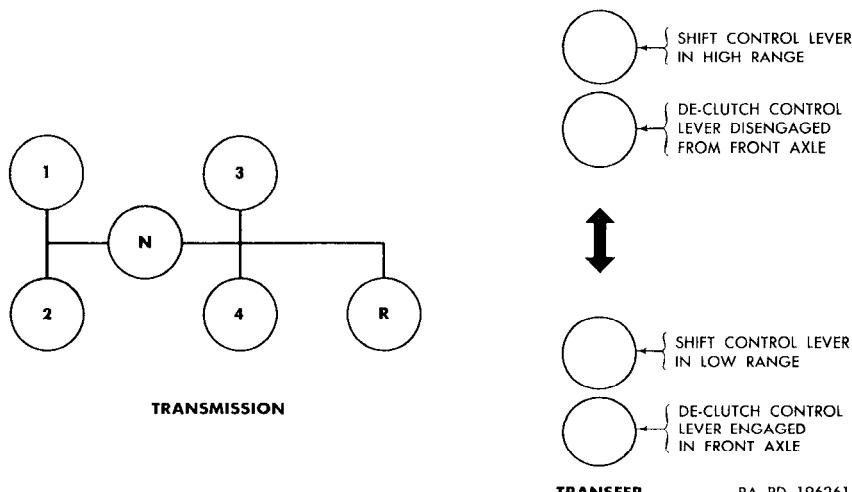

Figure 26. Transmission and transfer shift diagram.
- (1) Depress the clutch pedal and place the transmission gearshift lever in first speed position (1, fig. 26).
- (2) Place the transfer shift control lever in high range position and the transfer declutch lever in the disengaged position (fig. 26).
- (5) Momentarily, depress the clutch pedal and, at the same time, release the accelerator pedal, move the transmission gearshift lever to the next higher gear position (fig. 26).
- (6) Repeat (4) and (5) above until the vehicle is moving in fourth speed (direct drive).
- (2) *High range (front axle disengaged).* For operation on a smooth level highway, place the transfer in high range and be sure that the front axle is disengaged. With the vehicle stopped, depress the clutch pedal (DD, fig. 12) and place the transmission gearshift lever (W, fig. 12) in first gear (I, fig. 26). Move the transfer shift control lever (Q, fig. 12) and
the transfer declutch control lever (R, fig. 12) to the forward positions (fig. 26). If difficulty is encountered in shifting the shift control lever, release the clutch pedal slightly to allow the gears to mesh. With the transfer engaged, proceed with the driving operations (*c*(4) through (6) and *d* above).
- (3) *High range (front axle engaged).* To engage the front axle while operating in high range, stop the vehicle, depress the clutch pedal, move the shift control lever to the high range position, and move the declutch control lever to the engaged position (fig. 26). Proceed with driving operations (*c*(4) through (6) and *d* above).
- (4) *Low range (front axle engaged).* For transporting heavy loads over rough terrain or up steep grades, or for operating through mud, sand, snow, or ice, use low range. With the vehicle stopped, depress the clutch pedal (DD, fig. 12), place the transmission gearshift lever (W, fig. 12) in first gear (1, fig. 26), and move the transfer shift control lever (Q, fig. 12) to the low range position (fig. 26). As the shift control lever is placed in low range position, it engages the transfer declutch control lever (R, fig. 12), moving it to the engaged position. If difficulty is encountered in operating the shift control lever, release the clutch pedal slightly to permit the gears to mesh. With the transfer engaged, proceed with driving operations (*c*(4), (5), and (6) and *d* above).
h. Driving up Steep Grades. When driving up a steep grade, shift the transmission to the next lower gear (fig. 26) to prevent excessive engine laboring or stalling. If it becomes necessary to shift to a still lower gear with the vehicle in motion, depress the clutch pedal and move the gear shift lever to neutral position, quickly release the clutch pedal and, at the same time, accelerate the engine to governed speed, depress the clutch pedal, move the gearshift lever to the lower gear position (fig. 26) and release the clutch pedal, accelerating the engine, as necessary, to prevent loss of speed.
- (2) Prepare stalled vehicle for towing. Pull out the choke control (Y, fig. 12) and throttle control (H, fig. 12) about one-third of its travel. Turn the ignition switch (BB, fig. 12) on. Depress the clutch pedal (DD, fig. 12) and place the transmission gear shift lever (W, fig. 12) in fourth gear position (fig. 26). Place the transfer shift control lever (Q, fig. 12) in the high range position and the transfer declutch control lever (R, fig. 12) in the disengaged position fig. 26). Keep the clutch pedal depressed until the vehicles are moving at a speed sufficient to start the stalled engine ((4) below).
- (3) Operate the towing vehicle in first gear, starting slowly to avoid unnecessary strain.
- (4) As both vehicles attain a speed of approximately 5 mph, carefully release the clutch pedal of the towed vehicle.
b. Towing a Disabled Vehicle. The method of towing a disabled vehicle must be determined by the nature of the disability. The instructions in (1) through (6) below will serve as a guide in selecting the method of towing.
wheels on the ground. Place the transmission gear shift lever in neutral and the transfer control levers in the forward positions (fig. 26). This method of towing requires a driver in the towed vehicle to steer and to operate the brakes. Keep the towing cable taut by applying the brakes as necessary.
- (2) If damage is within the transfer assembly, disconnect both axle propeller shafts at the differentials and secure them to the frame. The vehicle may then be towed with all four wheels on the ground, ((1) above).
- (3) If the damage is within the rear axle, remove the rear axle drive shafts (par. 210a). Secure a piece of tin or cardboard over the flange openings to retain the grease in the axle. The vehicle may then be towed with all four wheels on the ground, ((1) above).
- (4) If the damage is within the front axle or the universal drive parts have been damaged, remove the drive flanges (par. 205c). The vehicle may then be towed with all four wheels on the ground, ((1) above).
- (5) If the vehicle must be towed with the front wheels off the ground, make certain that the transfer control levers are in the forward position (fig. 26).
- (6) Avoid towing the vehicle with the rear wheels off the ground, unless other methods are impossible.